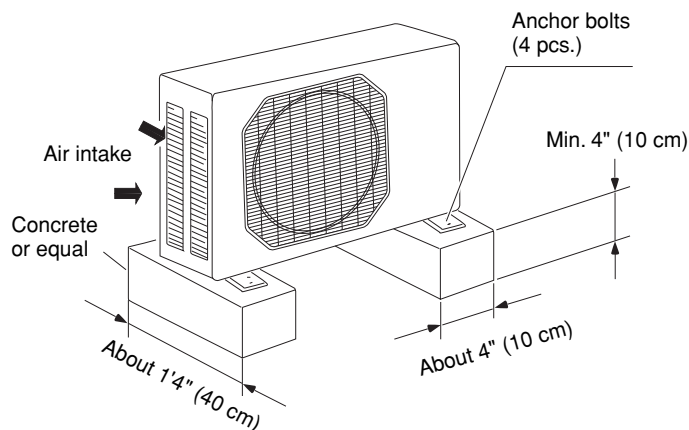

Fig. 5a
- provide a solid base (level concrete pad, concrete block, 4" x 1'4" (10 x 40 cm) beams or equal), a minimum of 4" (10 cm) above ground level to reduce humidity and protect the unit against possible water damage and decreased service life. (Fig. 5a)